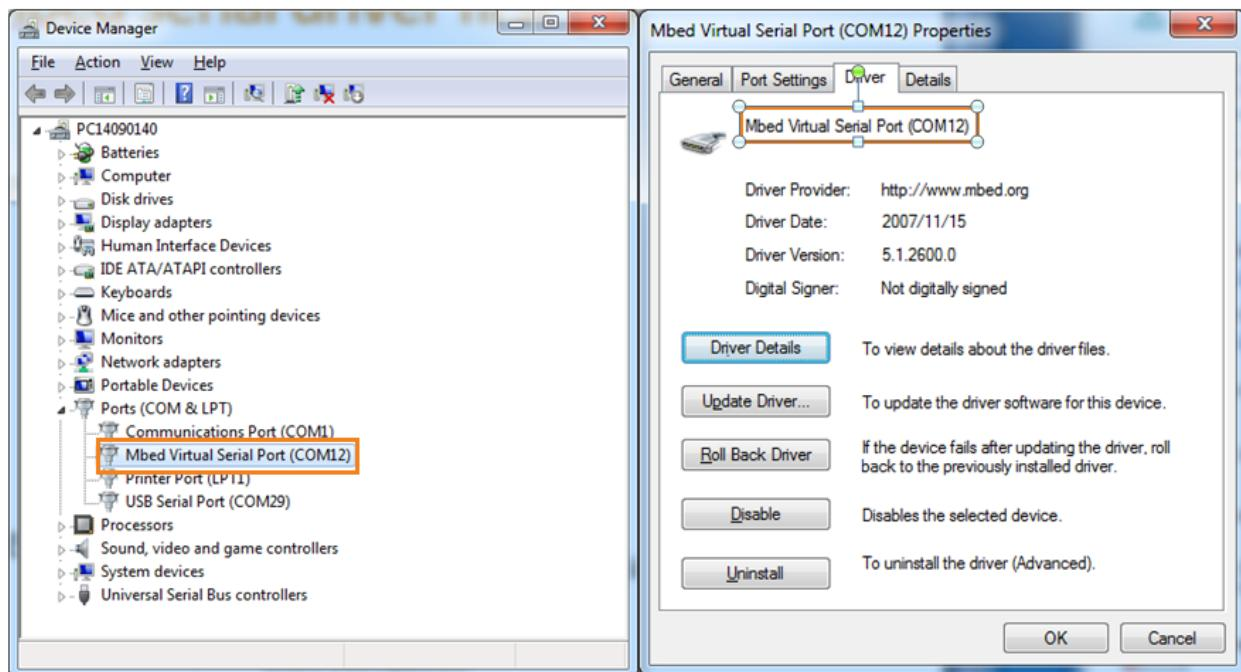

Figure 25. Installing the UART driver
- 102) In **Device Manager**, navigate to **Ports (COM & LPT)** (see Figure 25).